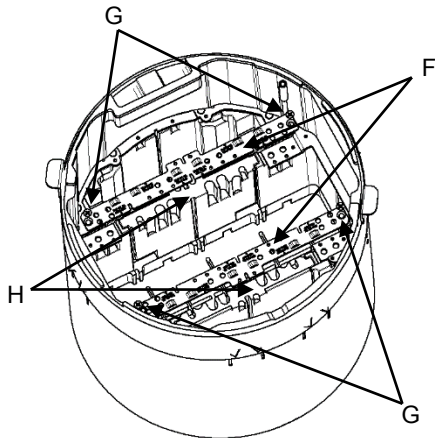
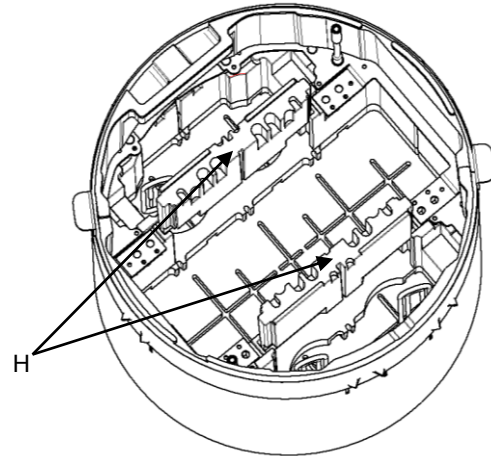

Fig. 3
Fig. 4
In the event the intumescent divider(s) (H), provided with fitting, need to be replaced, it can be purchased separately. Remove any cover plates that may be installed. Remove and retain the screws (G) and bracket(s) (F) noting the orientation, Fig. 3. Remove the intumescent divider(s) (H). **CAUTION: To maintain fire classification, both intumescent dividers (H) must be installed.** For installation, note the intumescent divider (H) orientation, Fig. 4. Install bracket(s) (F) with the screws (G) and torque to 8-12 in-lbs (0,9-1,4 Nm). Note the orientation of brackets (F) in Fig. 3.